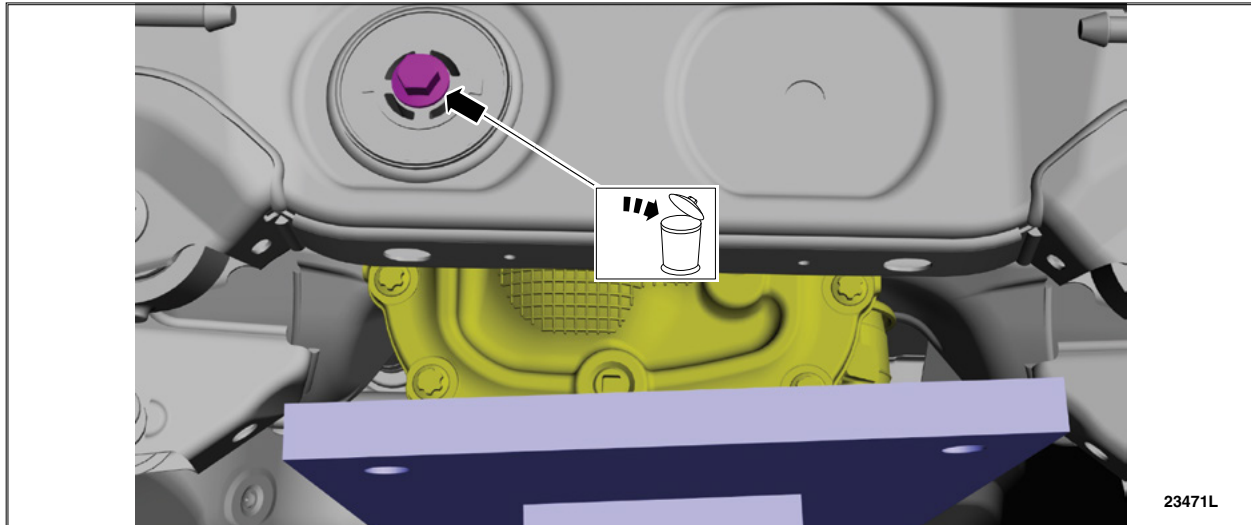

FIGURE 13
20. Remove and discard the rear axle housing support rear bolt. See Figure 13.